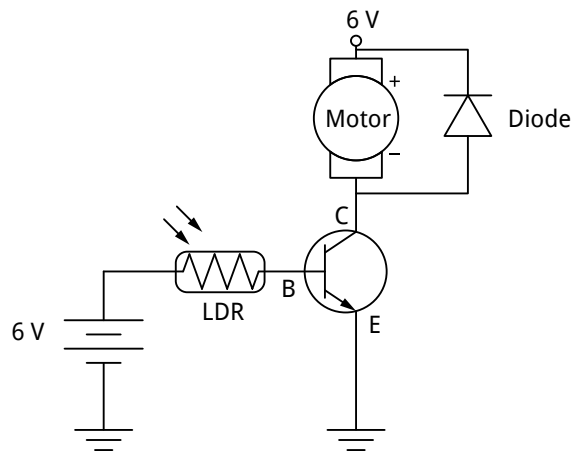

Figure 4.7.1: Circuit A
1. Refer to Figure 4.7.1 and 4.7.2 illustrated below.